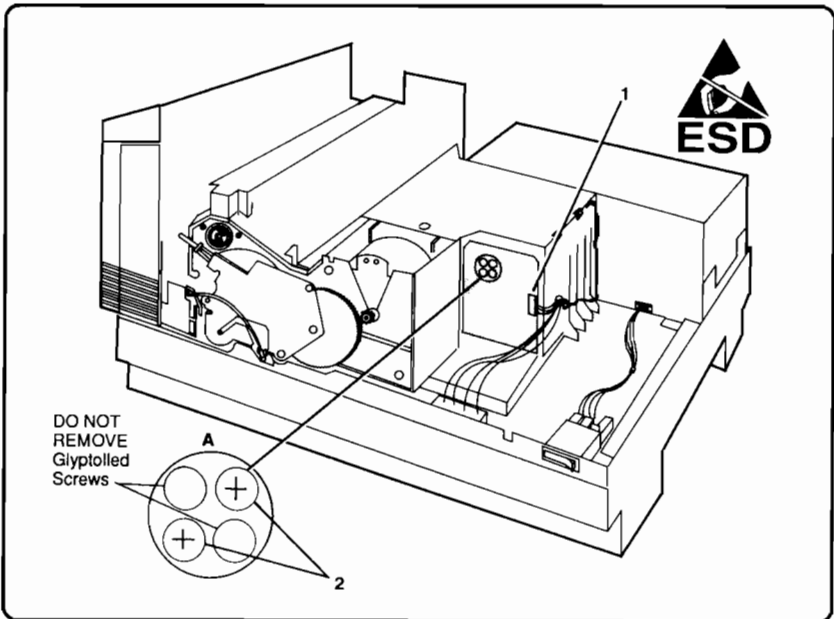

Figure 6-47. Laser PCA Removal
6. Unplug connector J401 from the Laser PCA (see Figure 6-47, callout 1).
Do not loosen the two Glyptolled screws on the Laser PCA. If these screws are loosened or removed, the Laser PCA loses alignment and must be replaced (see Figure 6-47, detail A).
7. Remove the recessed screws (2) securing the Laser PCA to the printer. Remove the PCA (Figure 6-47, callout 2).